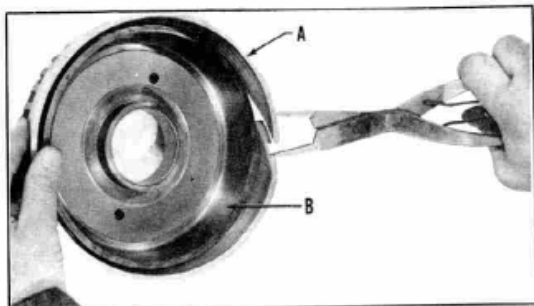

Figure 26
14. Remove the reverse stationary cone (A) from the reverse internal gear cone (B) by using snap ring pliers to expand the reverse stationary cone, Figure 26.
8. Install the reverse stationary cone (1) on the reverse internal gear cone (8). See Figure 26.